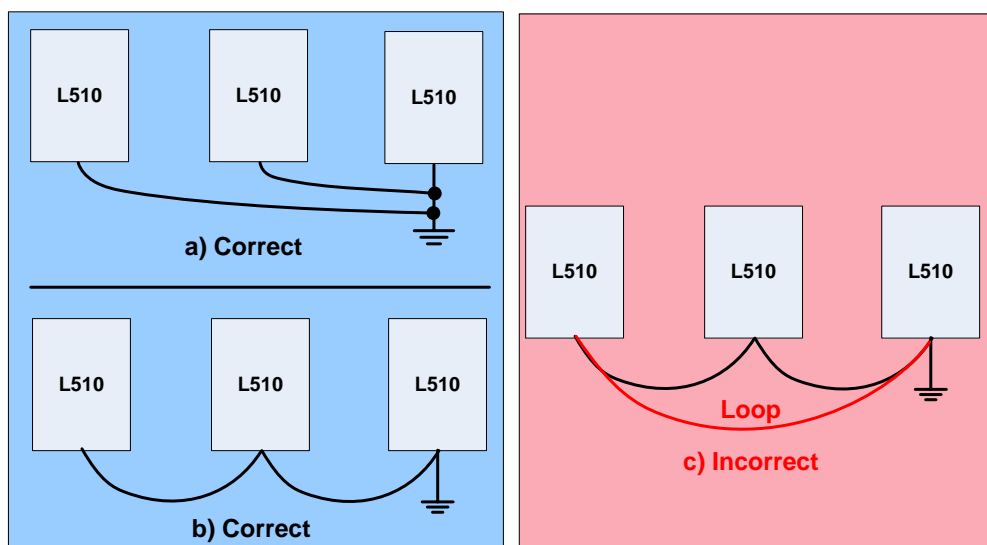

Fig. 3.10.1 Inverter Grounding
1. Connect the ground terminal (E) to ground having a resistance of less than 100 Ω .
4. When using more than one inverter, be careful not to loop the ground wire, as shown below in Fig. 3.10.1.